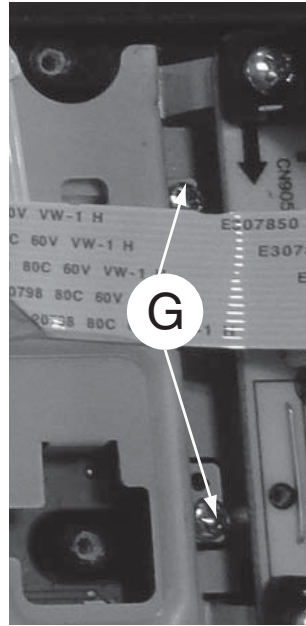

Figure 7
- 1) Loosen 2 screws "G" at the bracket as shown in figure 7.